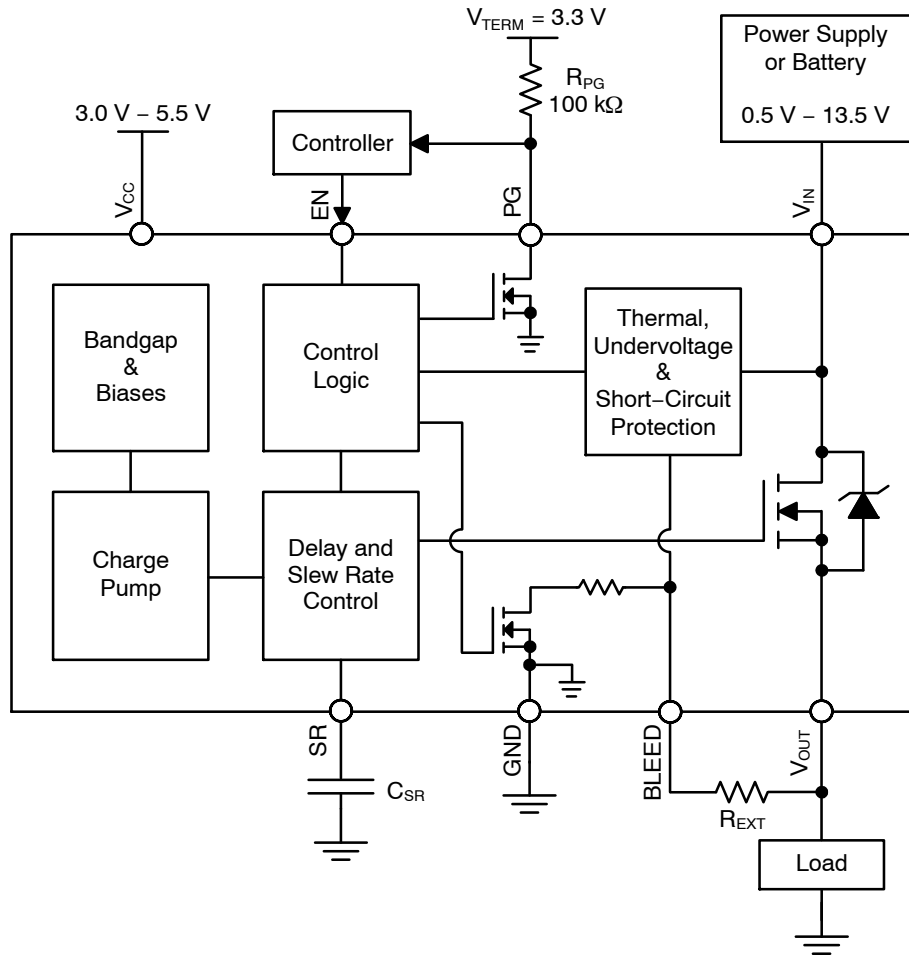
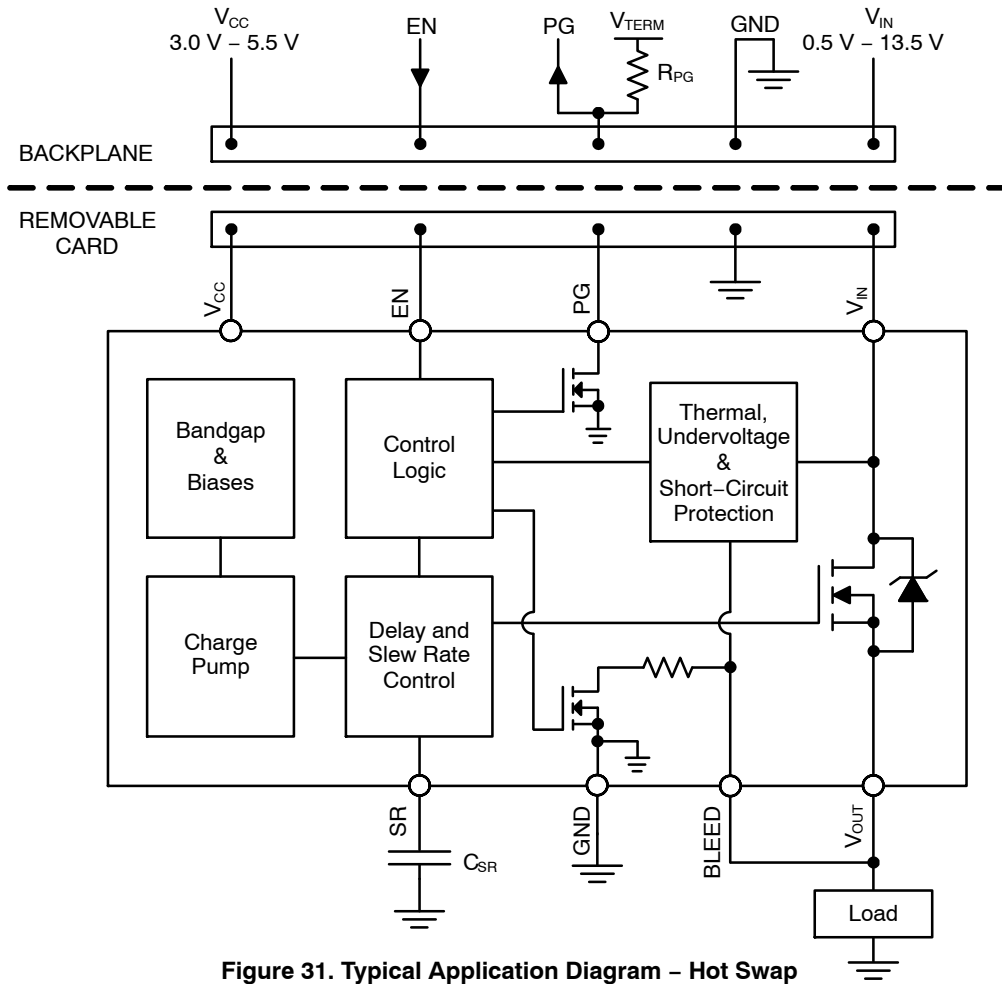

Figure 30. Typical Application Diagram - Load Switch
Figure 31. Typical Application Diagram - Hot Swap
It is required that the BLEED pin be connected to V_{OUT} either directly (as shown in Figure 31) or through an external resistor, R_{EXT} (as shown in Figure 30). R_{EXT} should not exceed 1 kΩ and can be used to increase the total bleed resistance.
The NCP45540 devices have a power good output (PG) that can be used to indicate when the gate of the MOSFET is fully charged. The PG pin is an active–high, open–drain output that requires an external pull up resistor, R_{PG}, greater than or equal to 1 kΩ to an external voltage source, V_{TERM}, compatible with input levels of other devices connected to this pin (as shown in Figures 30 and 31).
The slew rate can be decreased with an external capacitor added between the SR pin and ground (as shown in Figures 30 and 31). With an external capacitor present, the slew rate can be determined by the following equation:
Once active, the circuitry monitors the difference in the voltage on the V_{IN} pin and the voltage on the BLEED pin. In order for the V_{OUT} voltage to be monitored through the BLEED pin, it is required that the BLEED pin be connected to V_{OUT} either directly (as shown in Figure 31) or through a resistor, R_{EXT} (as shown in Figure 30), which should not exceed 1 kΩ. With the BLEED pin connected to V_{OUT}, the short–circuit protection is able to monitor the voltage drop across the MOSFET.